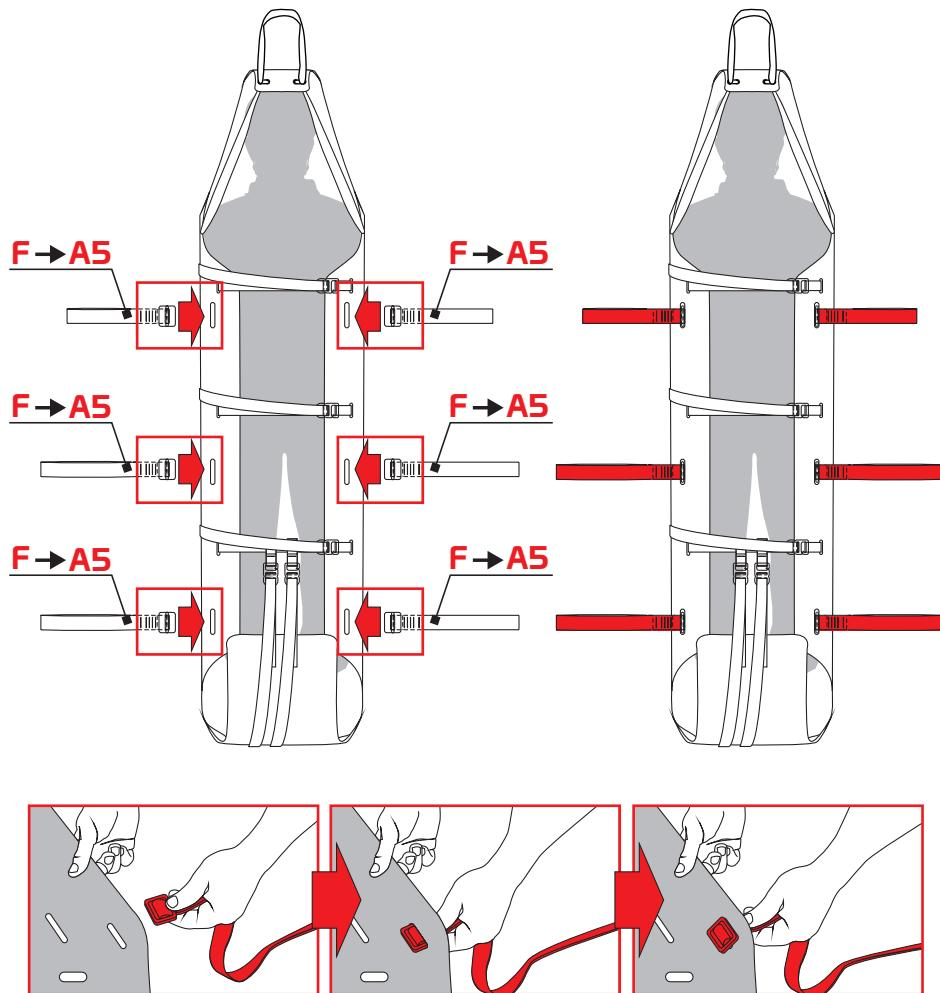

Fig.10
- a) manual transport: insert only the side handles (F) in the eyelets A5 on the support surface (fig. 10) - Please note: we suggest inserting the shortest couple of handles in the place near the torso of the patient, in order to keep the head higher than the feet.